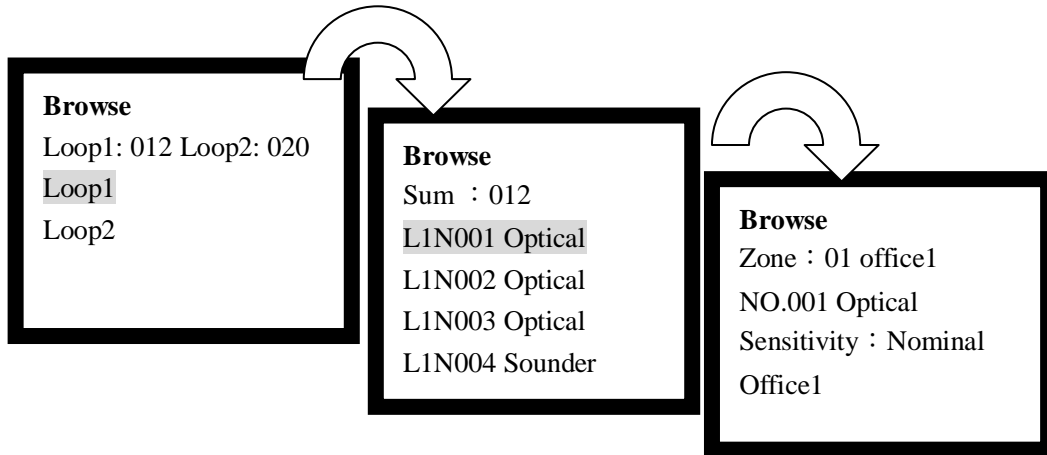

Fig. 6-4
- ✧ Entering number 1 to choose "1. Loop Devices" will enter the screen to view devices by loop, as shown in Fig. 6-4.